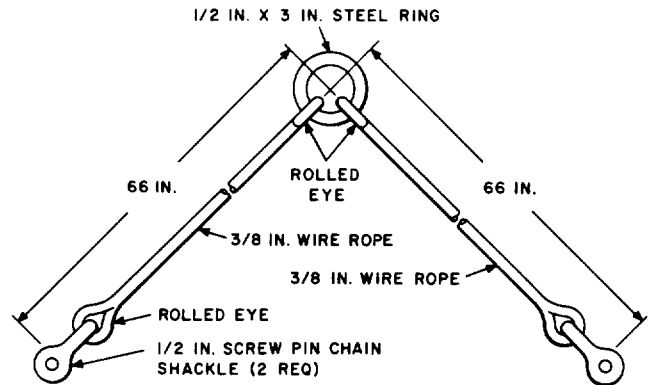
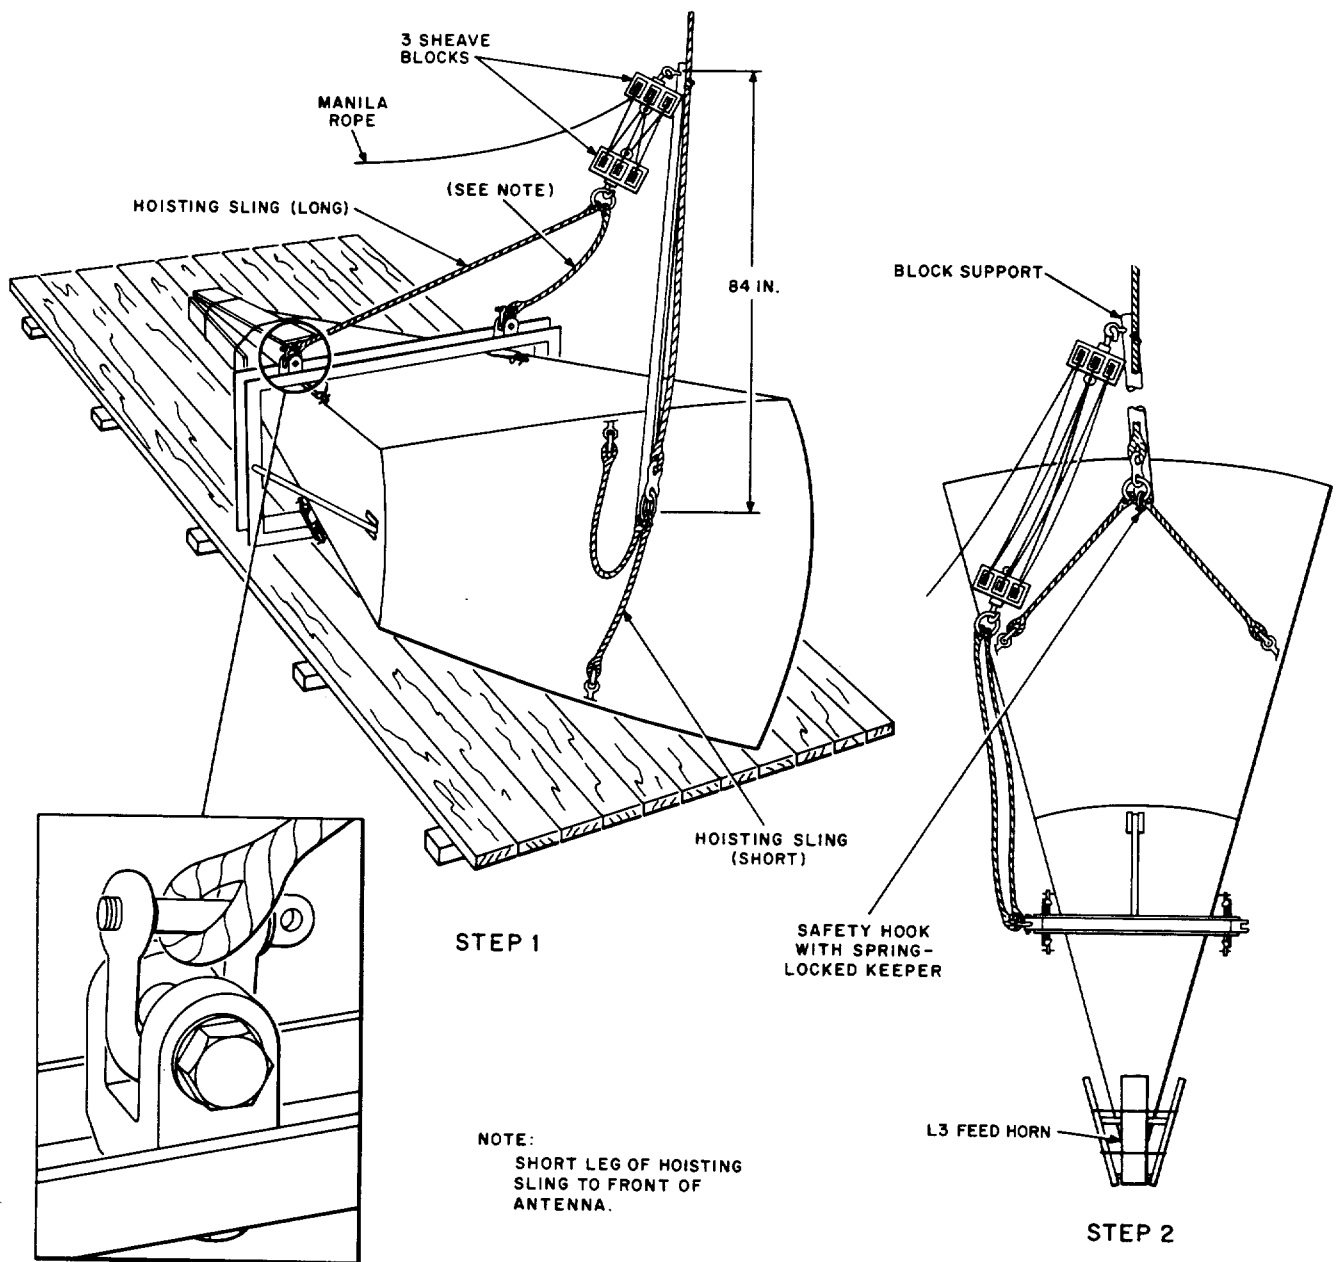

Fig. 1—Hoisting Sling (Short)
Fig. 4—Raising the L9 or L14 Antenna
(b) Hoisting sling as shown in Fig. 1, or equivalent.
2.04 Raising the L8 Antenna: The L8 antenna is assembled front down and is raised from this position as follows: Attach the hoisting sling (Fig. 1) to the load line from the derrick atop the tower. Connect the ends of the sling to the two eyebolts located near the center of the sides of the antenna reflector. Attach guide lines to the ends of the sling to control the load during hoisting. Raise the antenna to a vertical position, and hoist to the top of the tower.
lies on the shipping base (see Fig. 4). Place a 3/4-inch bolt in each beam jaw and fasten with the hex nuts provided. Raise the antenna using the following procedure:
- (1) Attach the short hoisting sling (Fig. 1) to the load line from the derrick atop the tower, and connect the ends to the eyebolts located near the center of the sides of the antenna reflector. Attach guide lines to the ends of the sling for control of the load during hoisting and to allow the antenna to be pulled to one side if necessary to clear intermediate guy wires on guyed towers. Attach the block support, per Fig. 4, to the load line by engaging the load line in the open ring on the upper end. Attach a 3-sheave block and fall to the eyebolt opposite the open ring. Push the support, with tackle attached, upward on the load line until the safety hook on the lower end can be engaged in the sling ring. The safety hook shall be equipped with a spring-loaded keeper to ensure positive engagement.